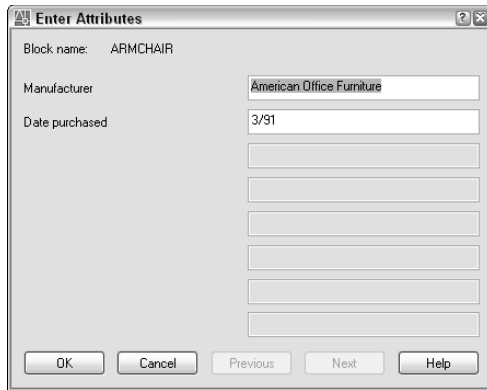

**Figure 18-33:** The Enter Attributes dialog box.
5. Pick a point in front of the desk (turn off OSNAP if necessary) to insert the armchair, and open the Enter Attributes dialog box, as shown in Figure 18-33. The values that were entered when the attributes were defined are displayed, but you can change them.